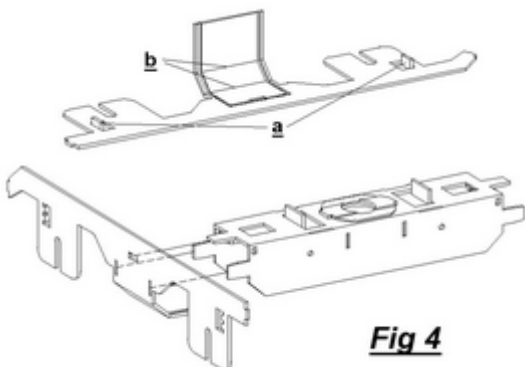

Fig 4
Remove the side-frames (3) from the etched sheet. Push out the 2 bearing guides, and carefully adjust at 90° to the inner face of each side frames (Fig 4-a). Fold the lower sides to form the base of the bolster (b) and carefully adjust so they follow the profile of the lower side of the bolster (Fig 4-b). Take some care with this, and test the location of the sides on the bolster. Carefully adjust as necessary. It is important that the side-frames sit truly square on the ends of the bolster, ensuring that the bolster mates with the half etch lines on the side-frames. Also note that they are "handed"